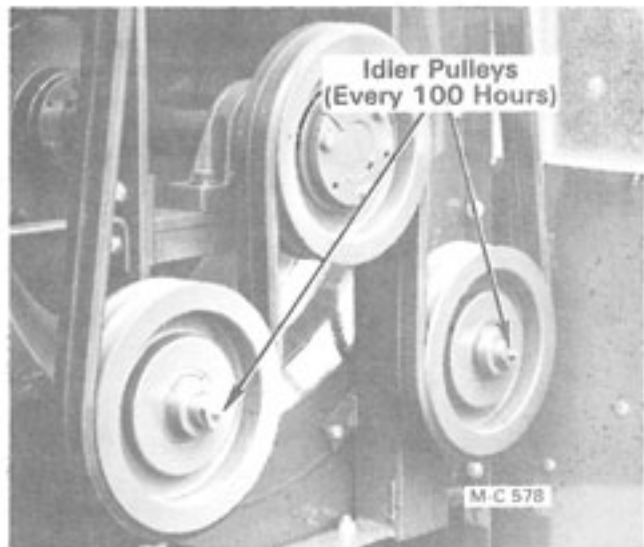

Figure 29
4. **All Model 675B and 975B** - Lubricate the fan drive belt idler pulleys, see Figure 29.